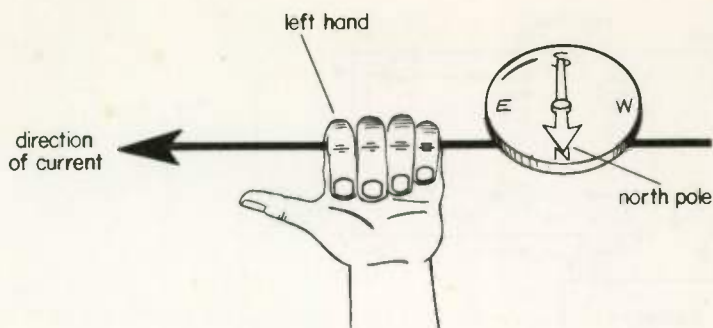

Fig. 13 One method of determining direction of d-c current through a conductor.
Figure 13 shows how a compass is used to determine current direction. The current causes the compass needle to swing at right angles to the conductor. When the fingers of the left hand are wrapped around the conductor in such a way that they point in the same direction as the north pole of the compass, the left thumb points in the direction of electron current flow. For currents less than 0.1 amp (ampere) or so, the compass will not respond, so this method cannot be used to find the direction of small currents.
3. Figure 13 shows you how to use your left hand and a compass to
determine electron current direction. A similar drawing in an engineering textbook intended for college use, would (not differ from Fig. 13 in any important respect) (show the right hand used rather than the left) (show the compass on the bottom of the wire rather than on top).
3. Show the right hand used rather than the left. Engineering texts use the conventional direction, and therefore will show the current as opposite to the direction in Fig. 13. It is then necessary to use the right hand so that the thumb points in what is considered to be the direction of current flow.